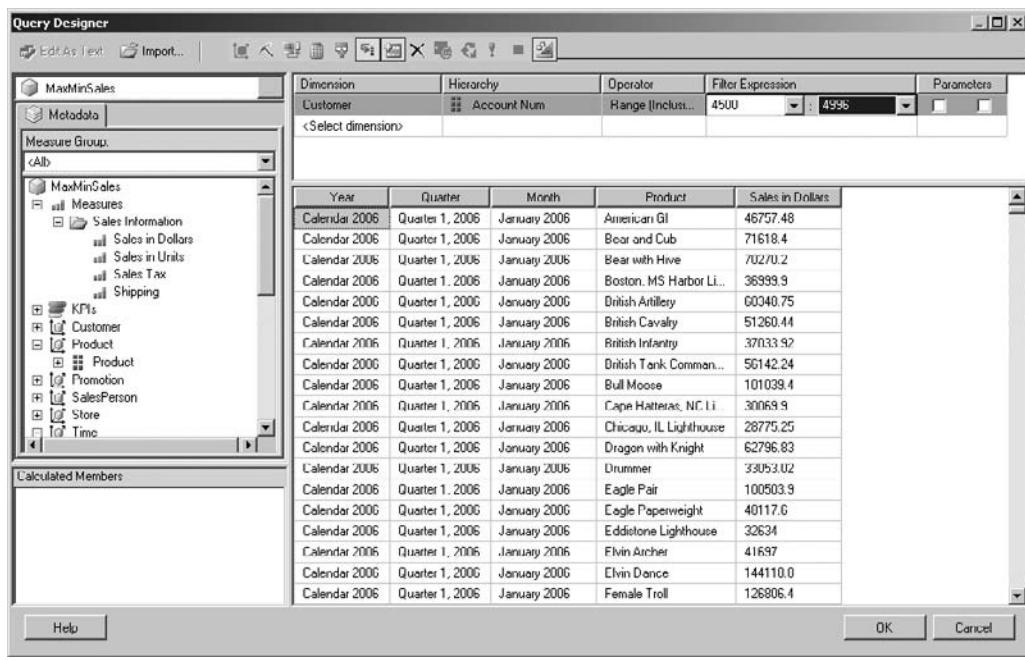

Figure 16-25 The MDX Query Builder with the query for the Wholesale Sales By Month Report
29. The query executes again. The MDX Query Builder appears as shown in Figure 16-25.